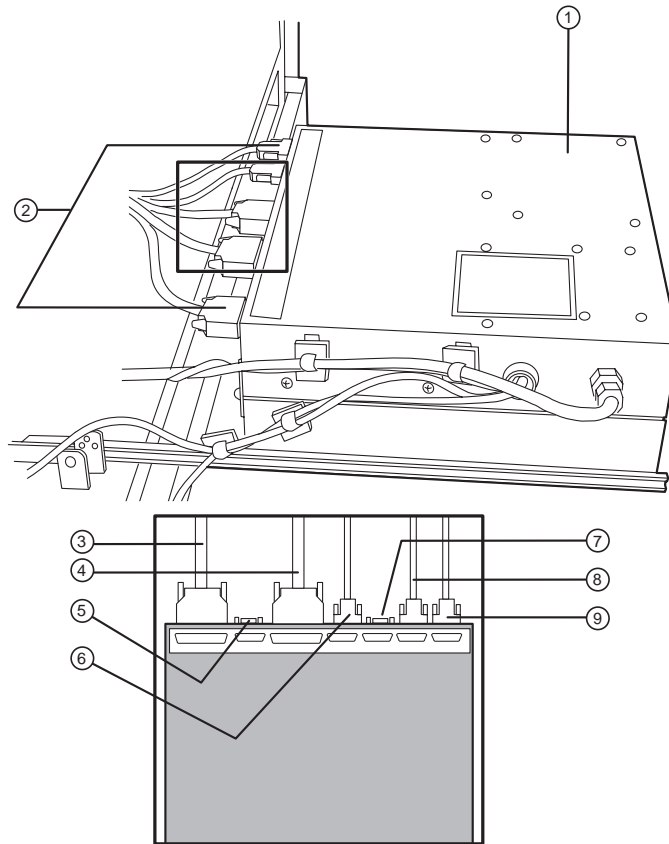

Figure 3-2 The electronics box with rear standoffs and connectors.
5. Remove the seven cable plugs at the rear of the box. Refer to Figure 3-2.
6. Remove all fourteen (14) standoffs at the rear of the box. Refer to Figure 3-2.